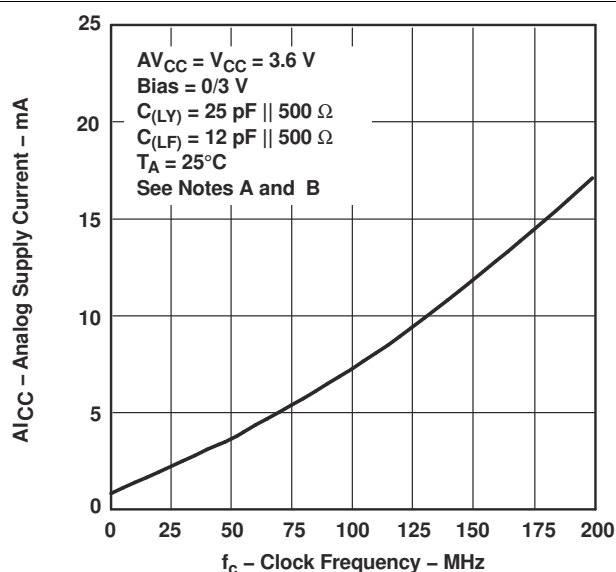

图 4-6. Analog Supply Current vs Clock Frequency
(1) For conditions shown as MIN or MAX, use the appropriate value specified under the *recommended operating conditions* section.
(2) For dynamic I_{CC} vs Frequency, see Figure 4-6 and Figure 4-7.